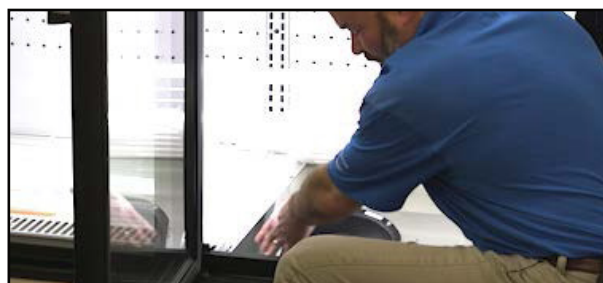

Fig. 97 Check pump operation
5. Confirm the pump is operating by pouring a container of water large enough to fill the pump reservoir down the case drain under the deck pans (Fig. 97).